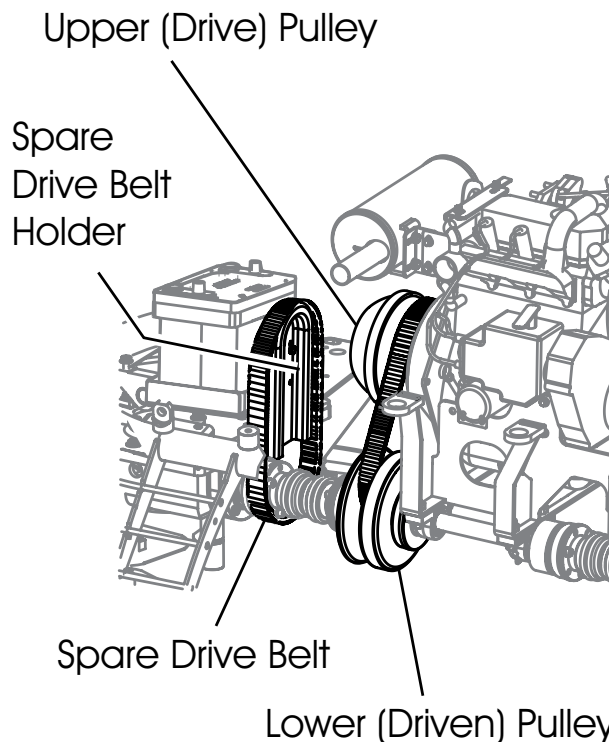

Figure 17. Drive Belt, Belt Holder and Pulleys
1. Remove Left-side End Grate and open Left "Clamshell" (see Figure 4) to gain access to Drive Belt, Spare Drive Belt, and Pulleys (Figure 17)